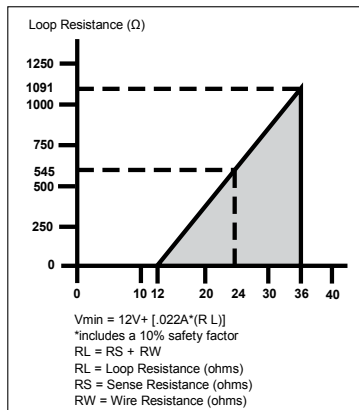

Figure 5 Load Limitations
The voltage required for a 4...20 mA output is dependent on the loop resistance of the circuit. Refer to Figure 5 showing the minimum supply voltage (Vmin) required for a given Loop Resistance (RL).